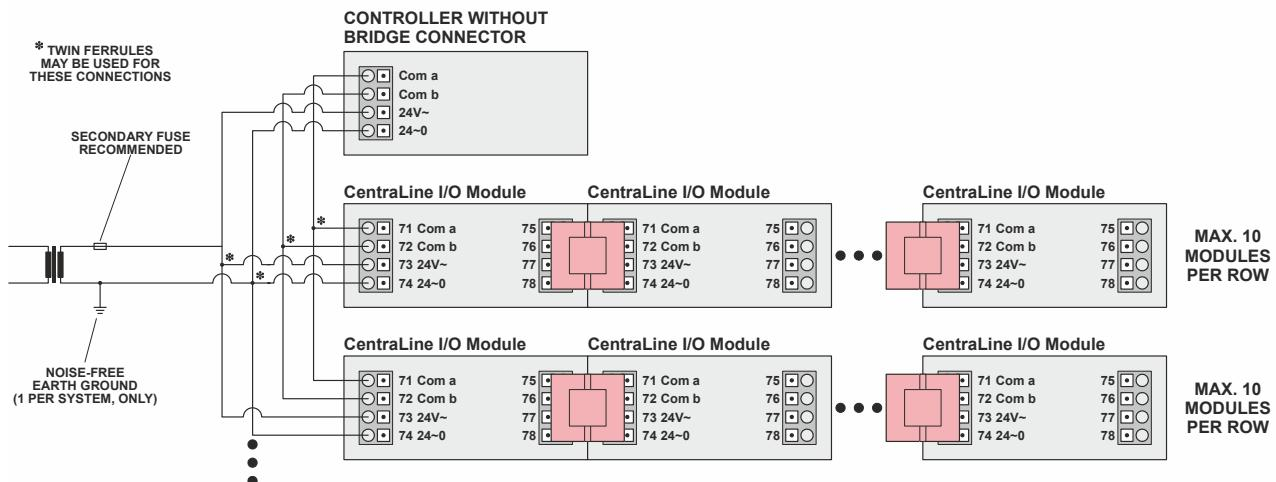

Fig. 22 Wiring controllers not supporting bridge connectors (for fusing, see section "Fusing Specifications" on page 9)
- Connect the controller and CentralLine I/O modules which do not support bridge connectors using wire. See also Fig. 22.